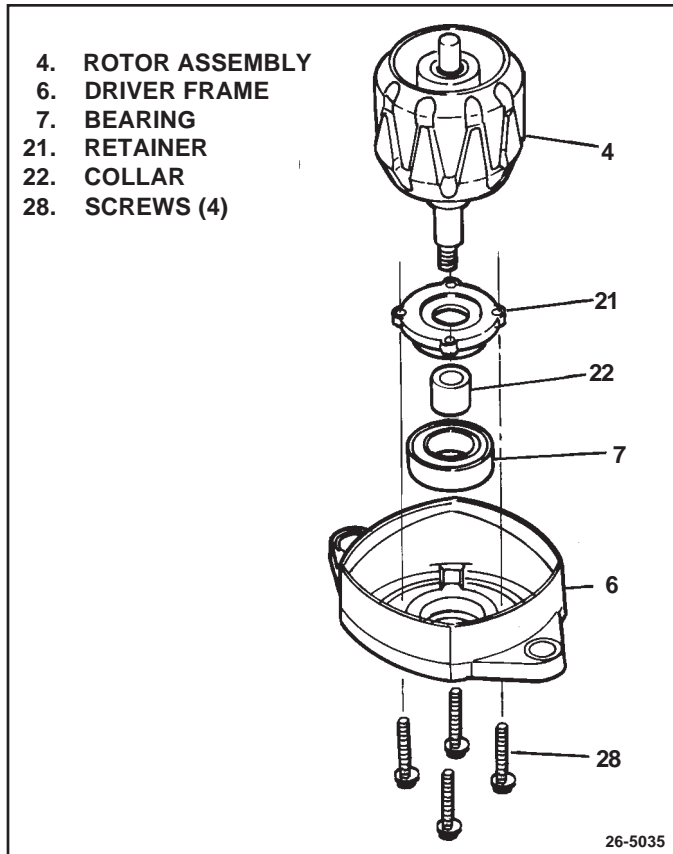

Figure 27. Disassembly of Drive End Components
17. To replace rotor (4) or drive end bearing (7), (See Fig. 27) remove 4 bearing retainer attachment screws (28) from outside of housing (1). Lift rotor with bearing from housing, then pull bearing off of rotor shaft. If inside collar (22) appears rough or damaged, pull collar from shaft.